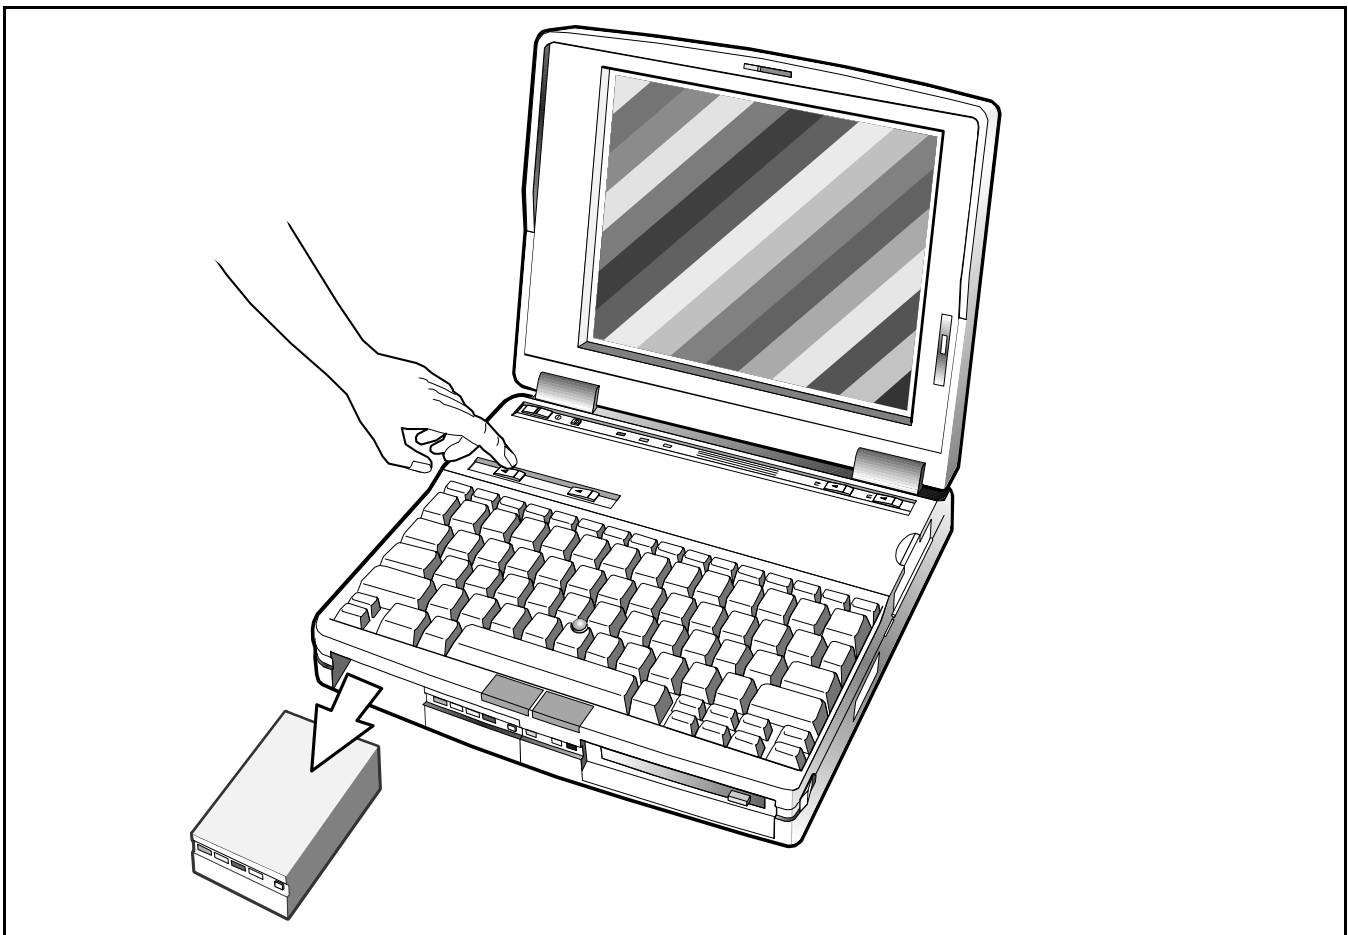

Figure 5-4 Battery Pack Removal/Replacement
2. Press the associated Battery Eject button, for the battery you are removing, to the left; remove the battery pack from the unit (see Figure 5-4).